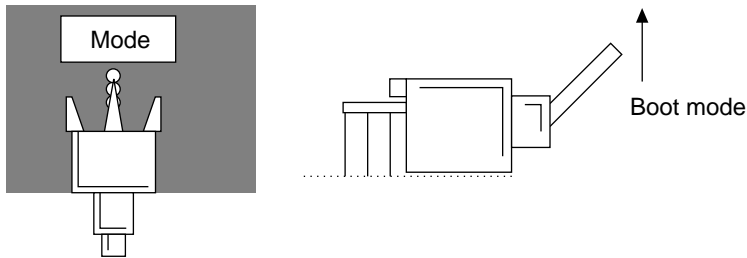

Figure 4.3 Programming Mode Switch Setting
3. Set the adapter board's mode switch to boot mode (figure 4.3).